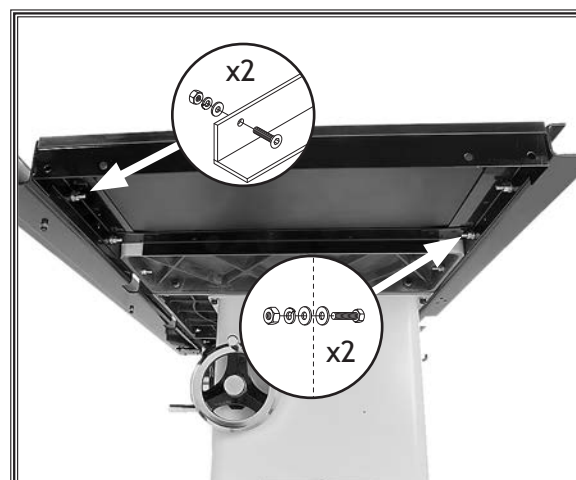

Figure 19. Extension table installed.
12. Install the extension table between the front and rear rails with (2) M8-1.25 x 35 hex bolts, (2) M8-1.25 x 35 flat head screws, (8) 8mm flat washers, (4) 8mm lock washers, and (4) M8-1.25 hex nuts, as shown in **Figure 19**. Finger tighten the fasteners for now.